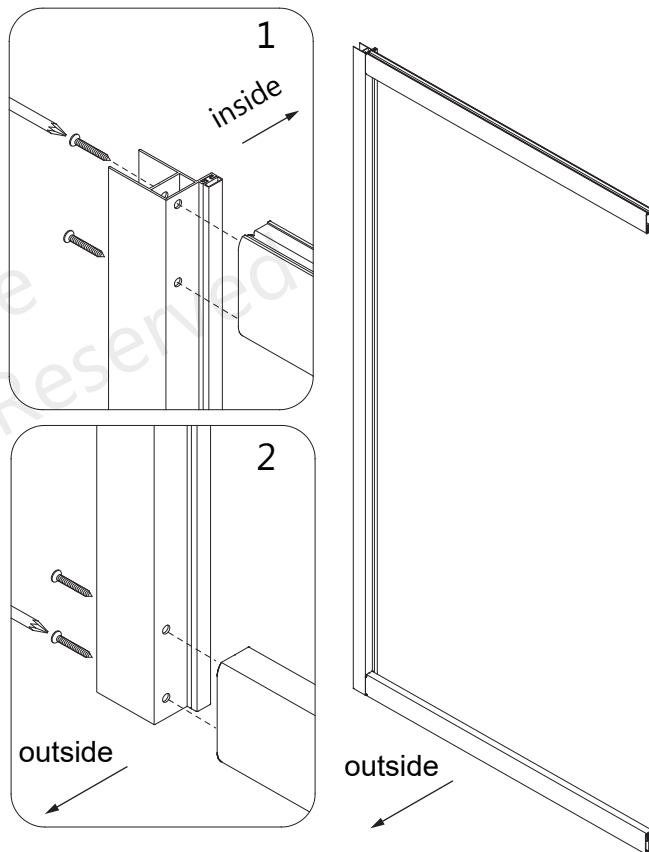

Fig 5
5. Attach the Guide Rails (top & bottom) (#03) to one of the Glass Profiles (#02) using the ST4.2×40 Truss Head Screws (#09). Start on the left end (as viewed from outside). (Fig 5)